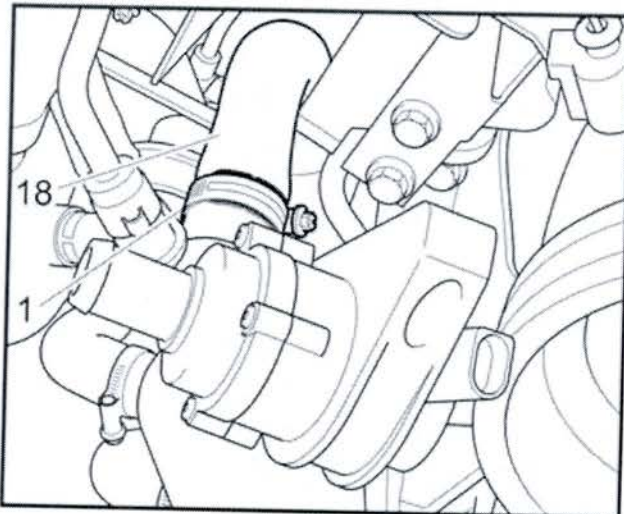

Figure 17
24. Connect the new 18 hose to the electric water pump and tighten hose clip- 1- (see Figure 17)